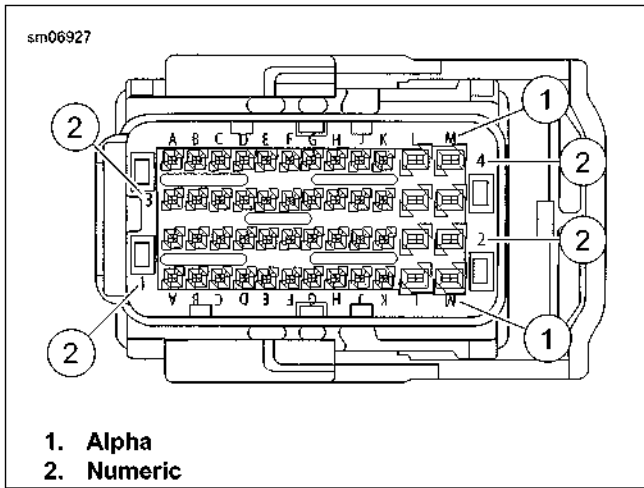

Figure A-45. Alpha-Numeric Coordinates
6. See Figure A-45. Locate the wire lead cavity by the alphanumeric coordinates.